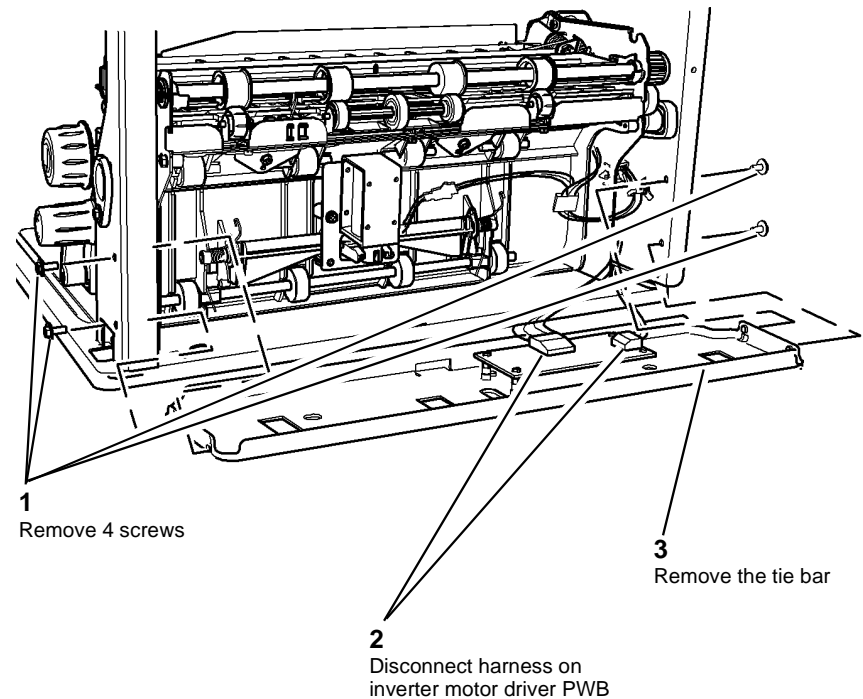

Figure 1 Tie bar
3. Remove the tie bar, Figure 1.